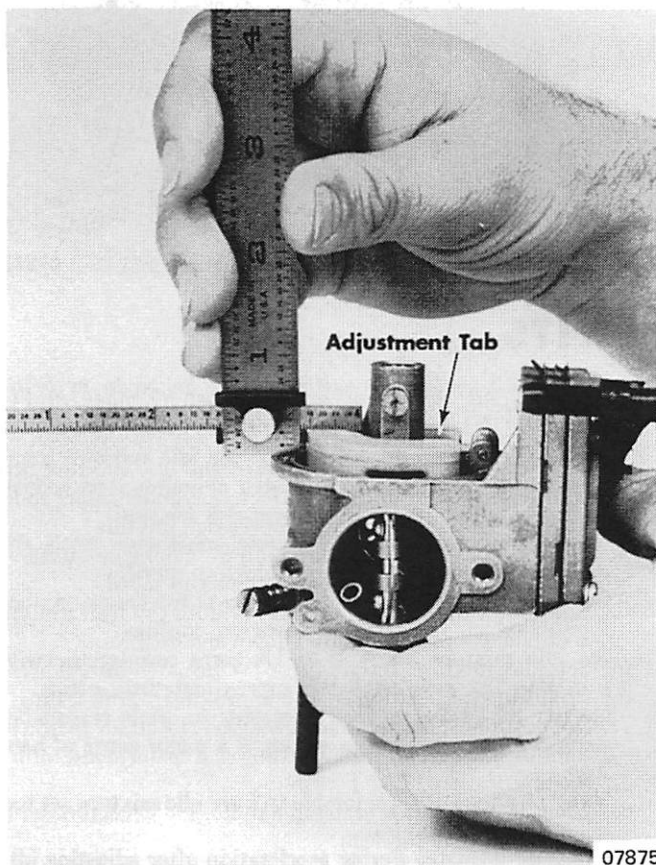

Figure 5. Float Level Adjustment
1. Adjust float level to  $\frac{1}{4}$ " (6.4mm)  $\pm$   $\frac{1}{64}$ " (.4mm) from float bottom to casting. Adjust by bending tab in. (Figure 5)